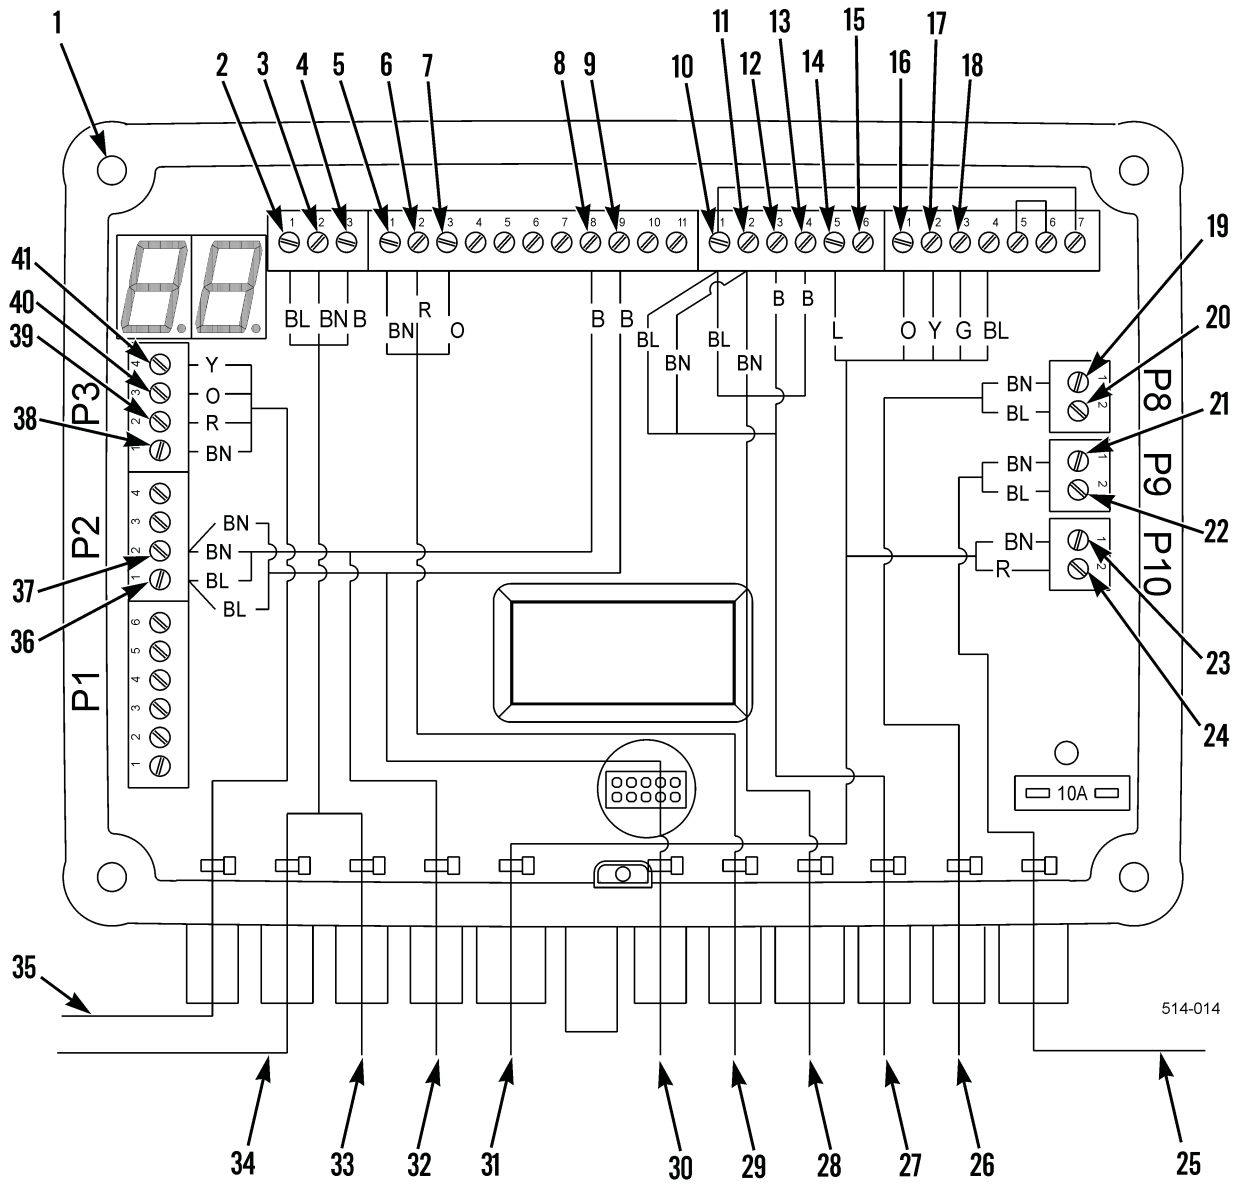

Figure 17. Space 4000 ST Box Wiring Installation.
1. Route stow harness (Figure 17, Item 25) into Space 4000 ST box (Figure 17, Item 1).
2. Connect brown wire to position 1 (Figure 17, Item 21), and blue wire to position 2 (Figure 17, Item 22) on P9.
3. Route unstow harness (Figure 17, Item 26) into Space 4000 ST box (Figure 17, Item 1).
4. Connect brown wire to position 1 (Figure 17, Item 19), and blue wire to position 2 (Figure 17, Item 20) on P8.
5. Route CAN bus harness (Figure 17, Item 31) into Space 4000 ST box (Figure 17, Item 1).
6. Connect brown wire to position 1 (Figure 17, Item 23), and blue wire to position 2 (Figure 17, Item 24) on P10.
7. Connect orange wire to position 1 (Figure 17, Item 15), yellow wire to position 2 (Figure 17, Item 16), green wire to position 3 (Figure 17, Item 17), and blue wire to position 4 (Figure 17, Item 18) on P7.
8. Connect lilac wire to position 5 (Figure 17, Item 14) on P6.
9. Route hook arm sensor harness (Figure 17, Item 27) into Space 4000 ST box (Figure 17, Item 1).
10. Connect black wire to position 3 (Figure 17, Item 12) on P6.
11. Route middle frame sensor harness (Figure 17, Item 28) into Space 4000 ST box (Figure 17, Item 1).
12. Connect two blue wires to position 1 (Figure 17, Item 10), two brown wires to position 2 (Figure 17, Item 11), and black wire to position 4 (Figure 17, Item 13) on P6.
13. Route RH transport lock sensor harnesses (Figure 17, Item 30) into Space 4000 ST box (Figure 17, Item 1).
14. Connect black wire to position 9 (Figure 17, Item 9) on P5.
15. Route LH transport lock sensor harnesses (Figure 17, Item 32) into Space 4000 ST box (Figure 17, Item 1).
16. Connect black wire to position 8 (Figure 17, Item 8) on P5.
17. Connect two blue wires to position 1 (Figure 17, Item 36), and two brown wires to position 2 (Figure 17, Item 37) on P2.
18. Route LH (Figure 17, Item 34) and RH (Figure 17, Item 33) stowage guide angle sensor harnesses into Space 4000 ST box (Figure 17, Item 1).
19. Connect two blue wires to position 1 (Figure 17, Item 2), two brown wires to position 2 (Figure 17, Item 3), two black wires to position 3 (Figure 17, Item 4) on P4.
20. Route space computer harness (Figure 17, Item 35) into Space 4000 ST box (Figure 17, Item 1).
21. Connect brown wire to position 1 (Figure 17, Item 38), red wire to position 2 (Figure 17, Item 39), orange wire to position 3 (Figure 17, Item 40), and yellow wire to position 4 (Figure 17, Item 41) on P3.